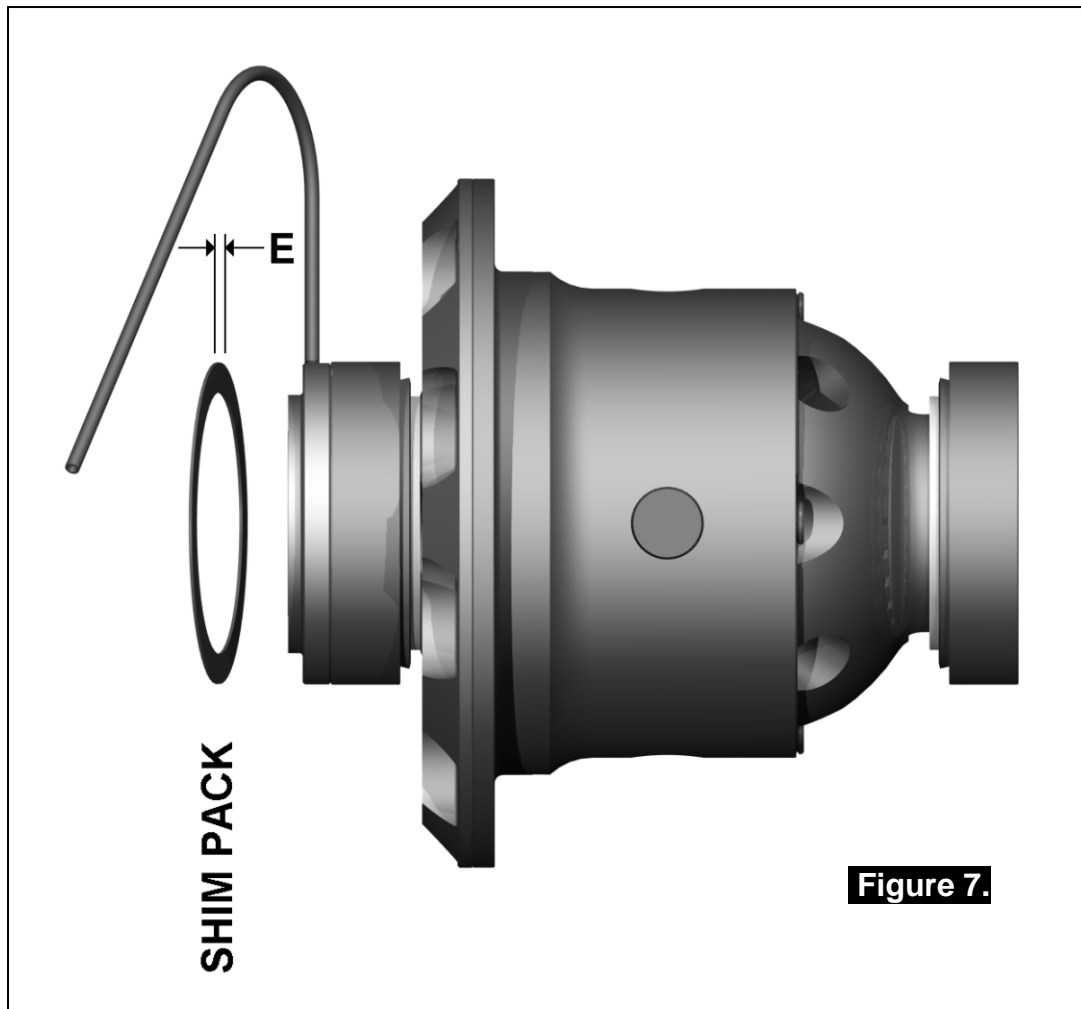

Figure 7.
In order to pre-load the tapered roller bearings in your *Air Locker*, measurements need to be taken so that a value can be calculated for the shim thickness 'E' in Figure 7.
- ☐ Add the specified pre-load amount to the measurement taken with the feeler gauge to determine a shim amount for 'E' in Figure 7.
- ☐ To increase the amount of backlash, reduce the shim thickness 'D' (Fig.5.) and increase the shim thickness 'E' (Fig.7.) by the same amount. Reverse this step to decrease the backlash.